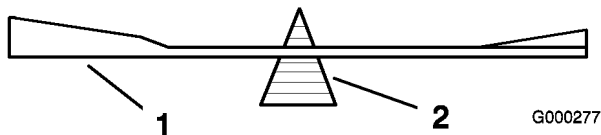
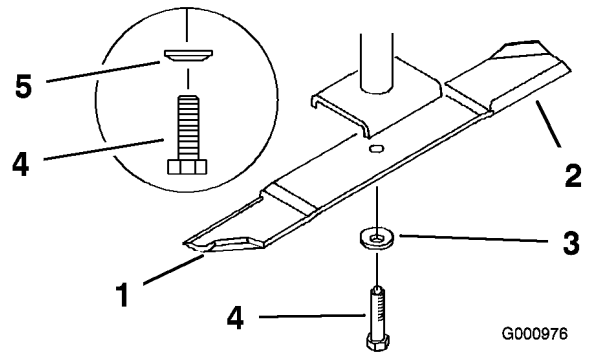

Figure 71
Figure 72
2. Remove the blade bolt, spring disk and blade from the spindle shaft (Figure 72).
2. Check the balance of the blade by putting it on a blade balancer (Figure 71). If the blade stays in a horizontal position, the blade is balanced and can be used. If the blade is not balanced, file some metal off the end of the sail area only (Figure 72). Repeat this procedure until the blade is balanced.
1. Install the blade onto the spindle shaft (Figure 72).
2. Install the spring disk and blade bolt. The spring disk cone must be installed toward the bolt head (Figure 72).